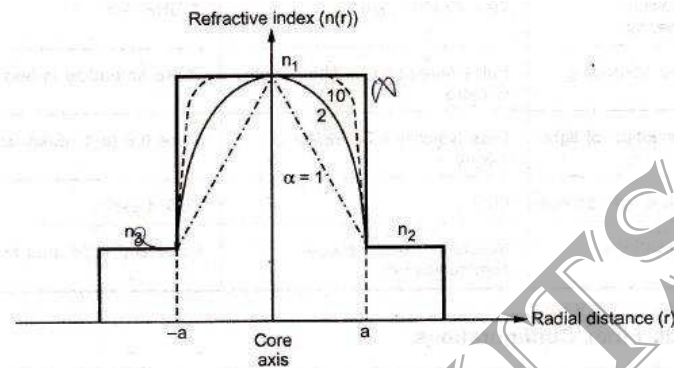

Fig. 1.6.15 Possible fiber refractive index profiles for different values of  $\alpha$
- x Profile parameter  $\alpha$  determines the characteristic refractive index profile of fiber core. The range of refractive index as variation of  $\alpha$  is shown in Fig. 1.6.15.